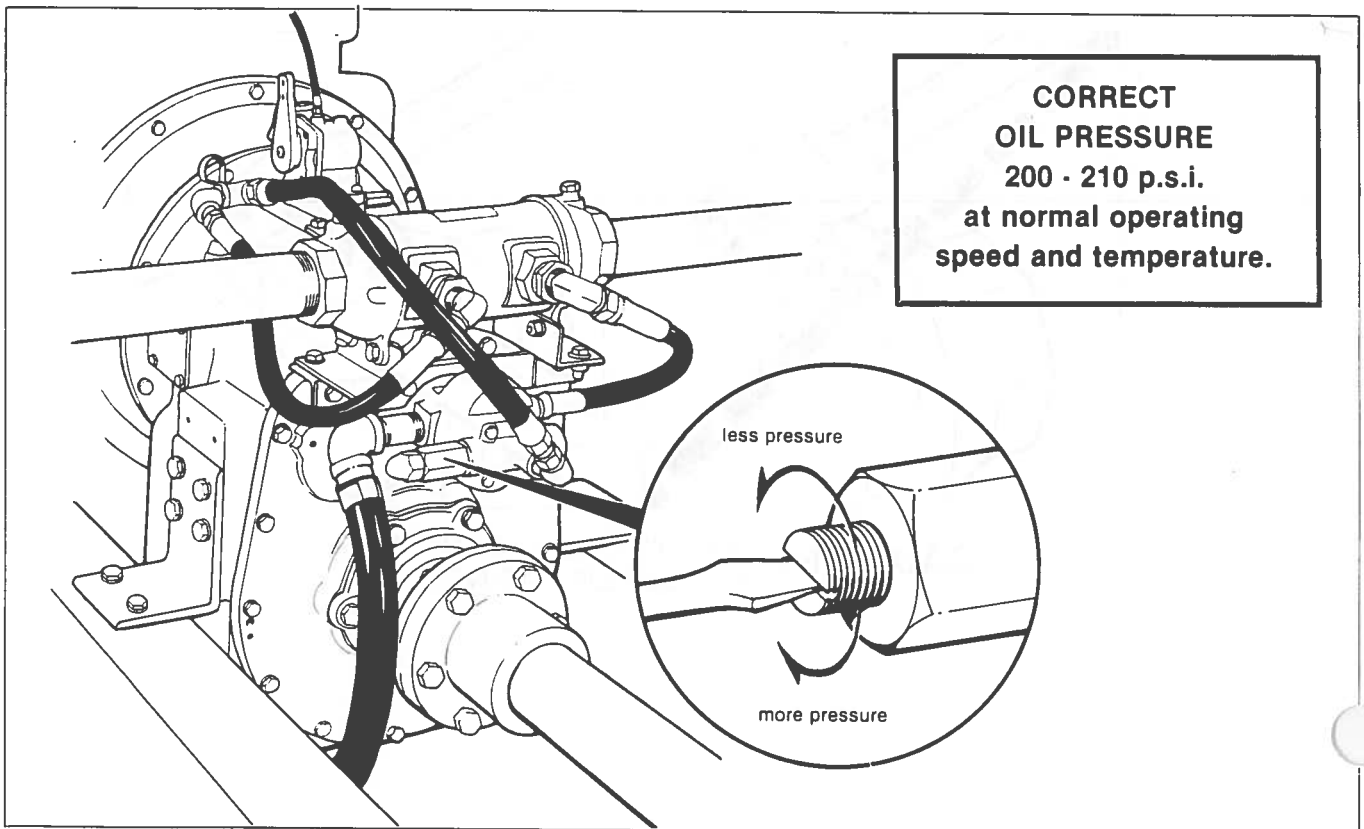

Fig. 12. Adjustment of Oil Pressure.
See fig. 12, p. 11.
At periodic intervals record pressure readings at idle speed. A gradual decline is normal. Readjust pressure relief valve to maintain proper operating pressures. See Fig. 12, p. 11.
6. Worn pump assembly.	6. Refer to oil pump section (page 17) or fig. 12, p. 11.
7. Incorrectly adjusted pressure relief valve.	7. See fig. 12, page 11.